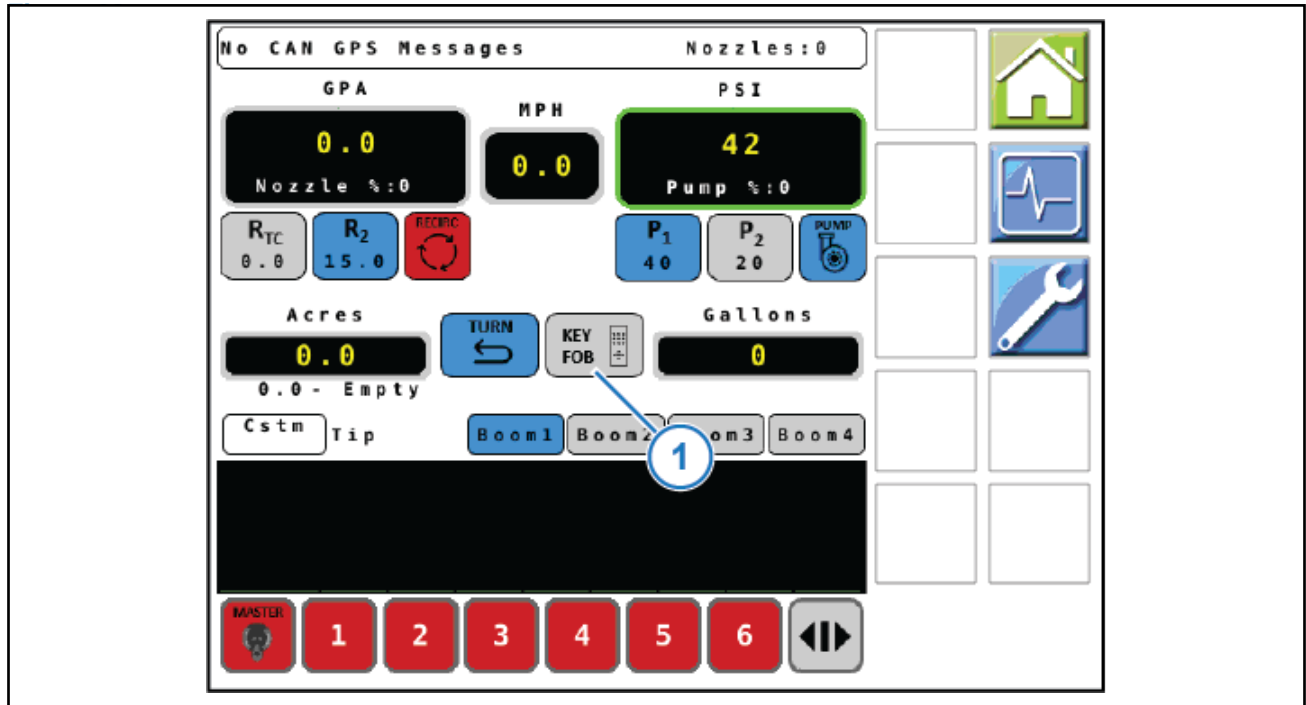

Figure 28: Run Screen
1. To initiate the key fob boom shutoff dry test, select the **KEY FOB** icon (Figure 28, Item 1).